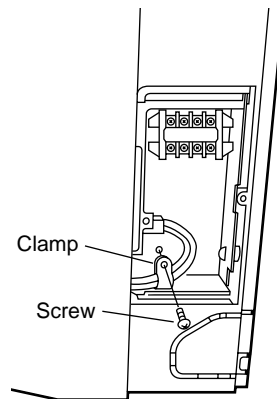

Fig. 3-32
- (2) Remove the clamp for the wiring connector. (Fig. 3-32)